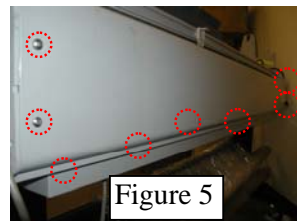

Figure 5
- c. Remove the rear cover by removing all 10 screws (4 top, 4 bottom, and 1 on each side) (Figure 5 & 6).